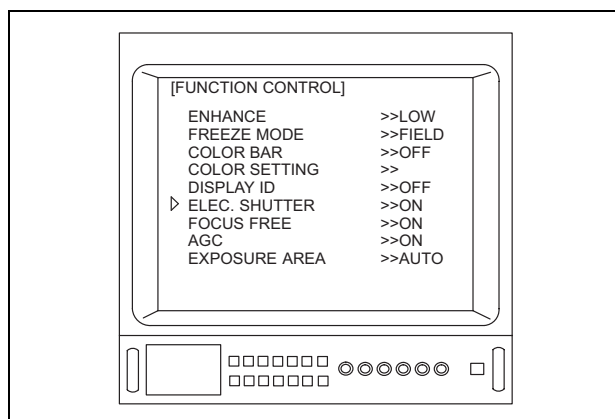

Figure 5.30
- When the OTV-S7V is connected to the ENF-V, CYF-V/VA or HYF-V, “ELEC. SHUTTER” and “EXPOSURE AREA” shown in Figures 5.30 and/or 5.31 are not displayed.
- When the OTV-S7V is connected to the LTF-V3 or A500**A series, “EXPOSURE AREA” shown in Figures 5.30 and/or 5.31 is not displayed.
- When the OTV-S7V is connected to a camera head without the focus free function, or to a videoscope, “FOCUS FREE” shown in Figures 5.30 and/or 5.31 is not displayed.
- Depending upon the OTV-S7V’s settings, the menus shown in Figures 5.30 and/or 5.31 may appear different from those displayed on the video monitor.